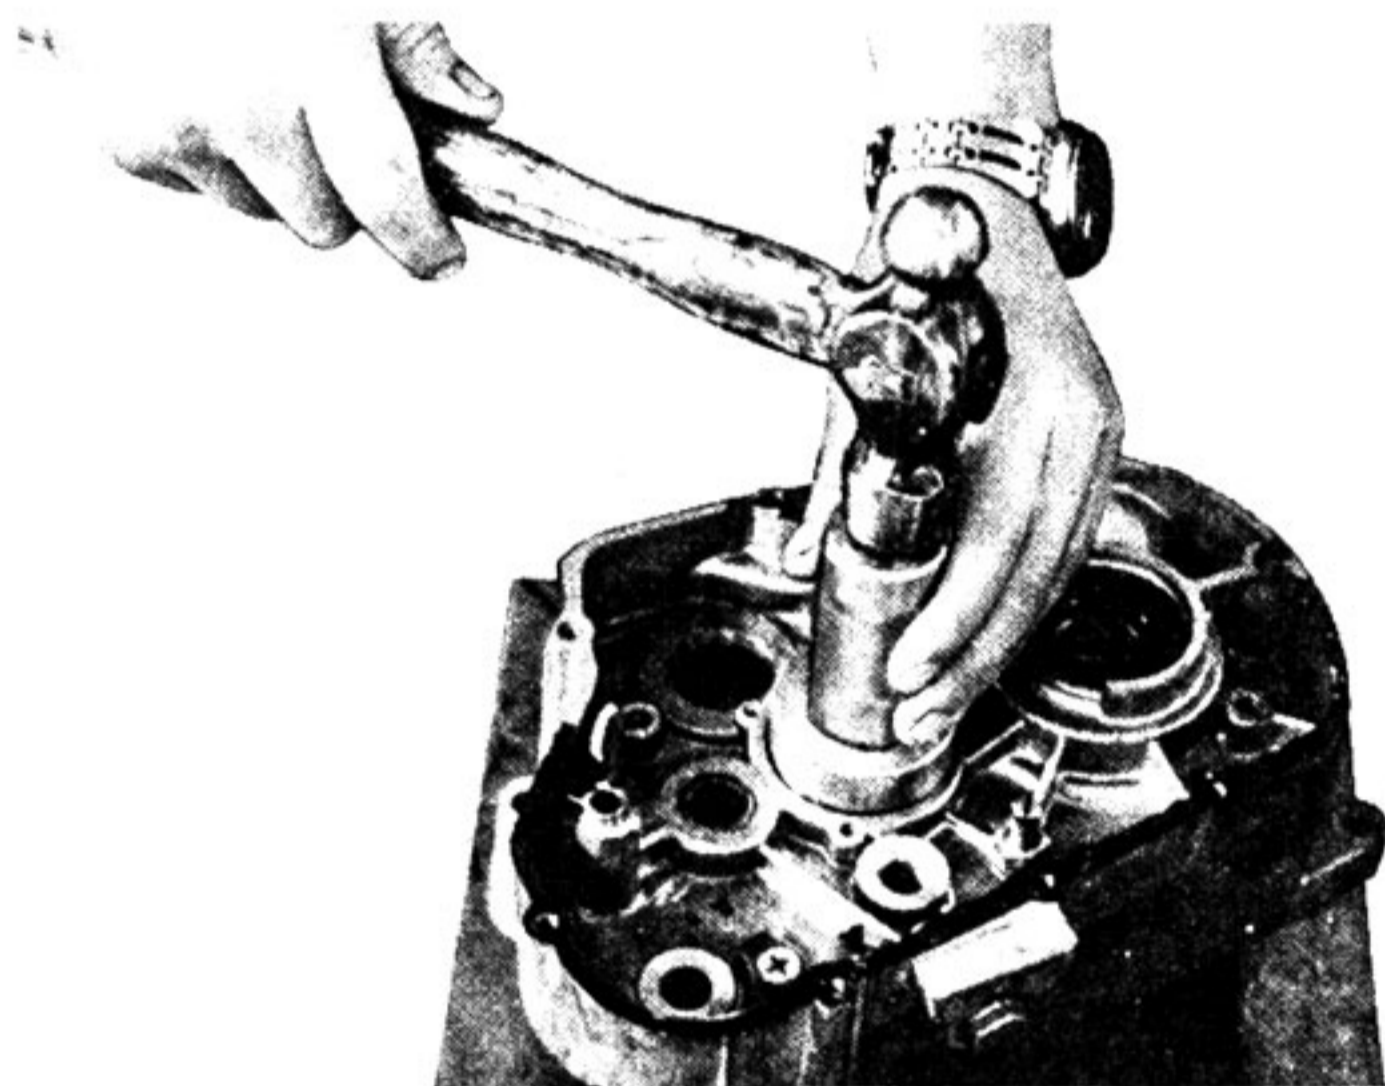

Fig. 4-18-3
b. Remove the bearings with the bearing removing tool. (Fig. 4-18-3)